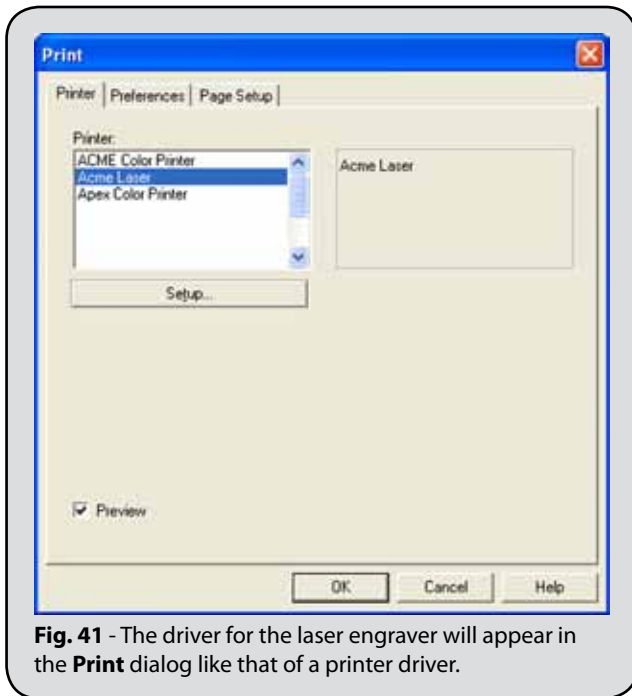

Fig. 41 - The driver for the laser engraver will appear in the **Print** dialog like that of a printer driver.
1. Choose **File** menu >> **Print** to open the **Print** dialog (Fig. 41).